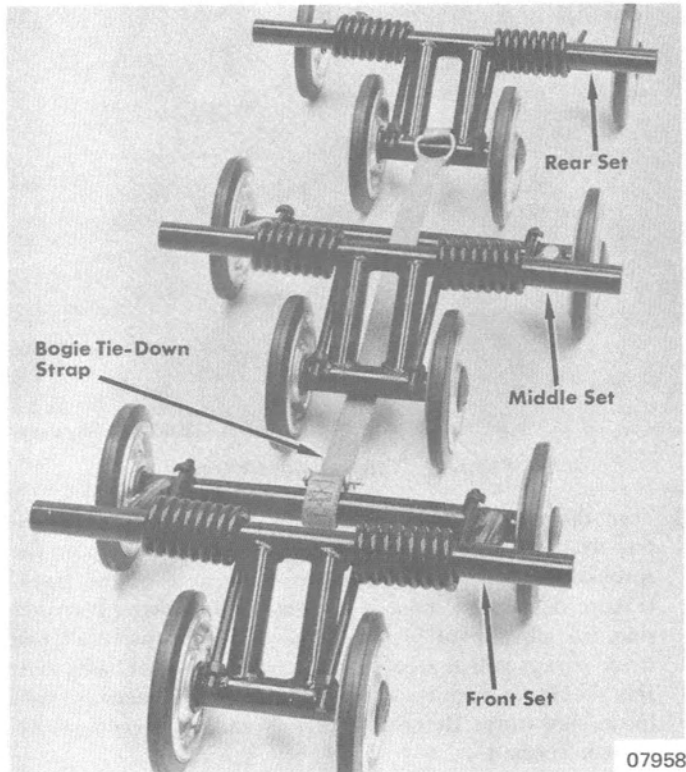

Figure 1. Bogie Wheel Sets
3. Disconnect bogie tie-down strap. (Figure 1)